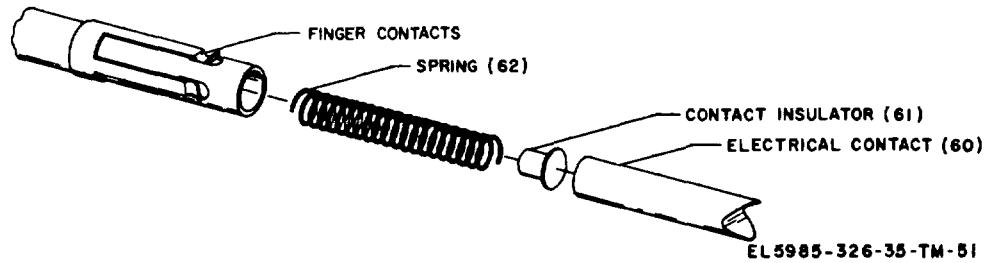

Figure 2-12. Band information sense circuit, simplified schematic diagram.
2-14. Band Information Sense Circuits (fig. 2-12)
a. Section of the 2 to 4-, 4 to 8-, 8 to 16-, or 16 to 30-MHz frequency band is initiated when band relay A1K2 (fig. 2-12) operates to allow the RF signal to be fed to the band information circuit. The final state of control amplified A3 band-switching relays after RF power is applied determines the initial position of the tuning elements in the antenna coupler.
b. Relay contacts A2K24-4 and -6 and A2K17 -2 and -8 (fig. 2-12) complete the circuit to operate band relay A1K2. The frequency band information circuit is switched into the RF line to replace the antenna circuit. The band information circuit presents the same load to the transmitter each time it is tuned to a given frequency. When RF power is supplied, normally operated RF power enable relay A2K24 restores and relay A2K17 remains restored for RF sampling of the band information circuit. When relay contacts A2K3-4 and -7 complete the gate circuit for A2Q2, and after capacitor A2C11 has charged to sufficient voltage to fire Zener diode A2CR88 (sufficient time to determine band information), A2K17 then operates, and band relay A1K2 restores, removing the band information circuit from the RF input signal. Relay terminals A3K1 -4 and A3K2-4 are grounded by the conduction of A2Q2. During the homing operation, the anode circuit of A2Q2 is opened by relay contacts A2K23-6 and -4.